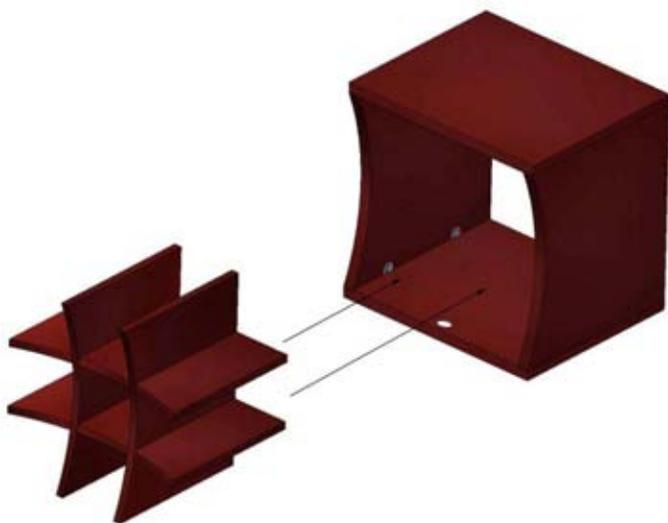

Figure 2
2. The cubbie insert is now complete and can be inserted into the finished wave cube (**Figure 2**).